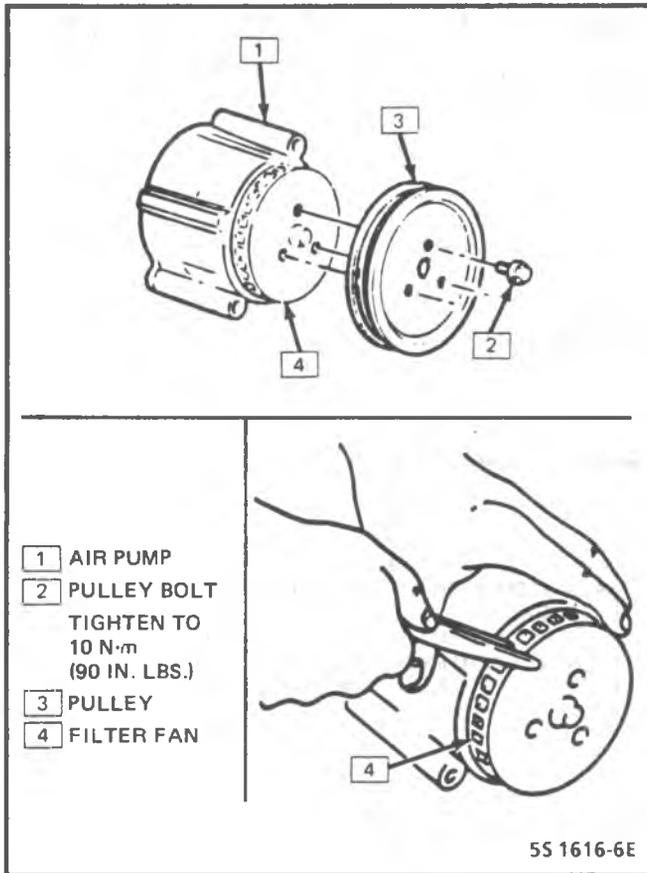

Figure 8-5 - Pump Filter Fan Service
Remove or Disconnect (Figure 8-5)
5. If required, insert needle nose pliers and pull filter fan from hub (see Figure 8-5).